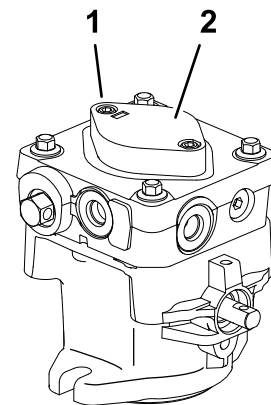

Figure 51
7. To prime the charge pump, loosen two hex socket head capscrews (Figure 51) 1-1/2 turns only. Make sure engine is not running. Lift charge pump housing upward and wait for a steady flow of oil to flow out from under housing. Retighten capscrews. Do this for both pumps.